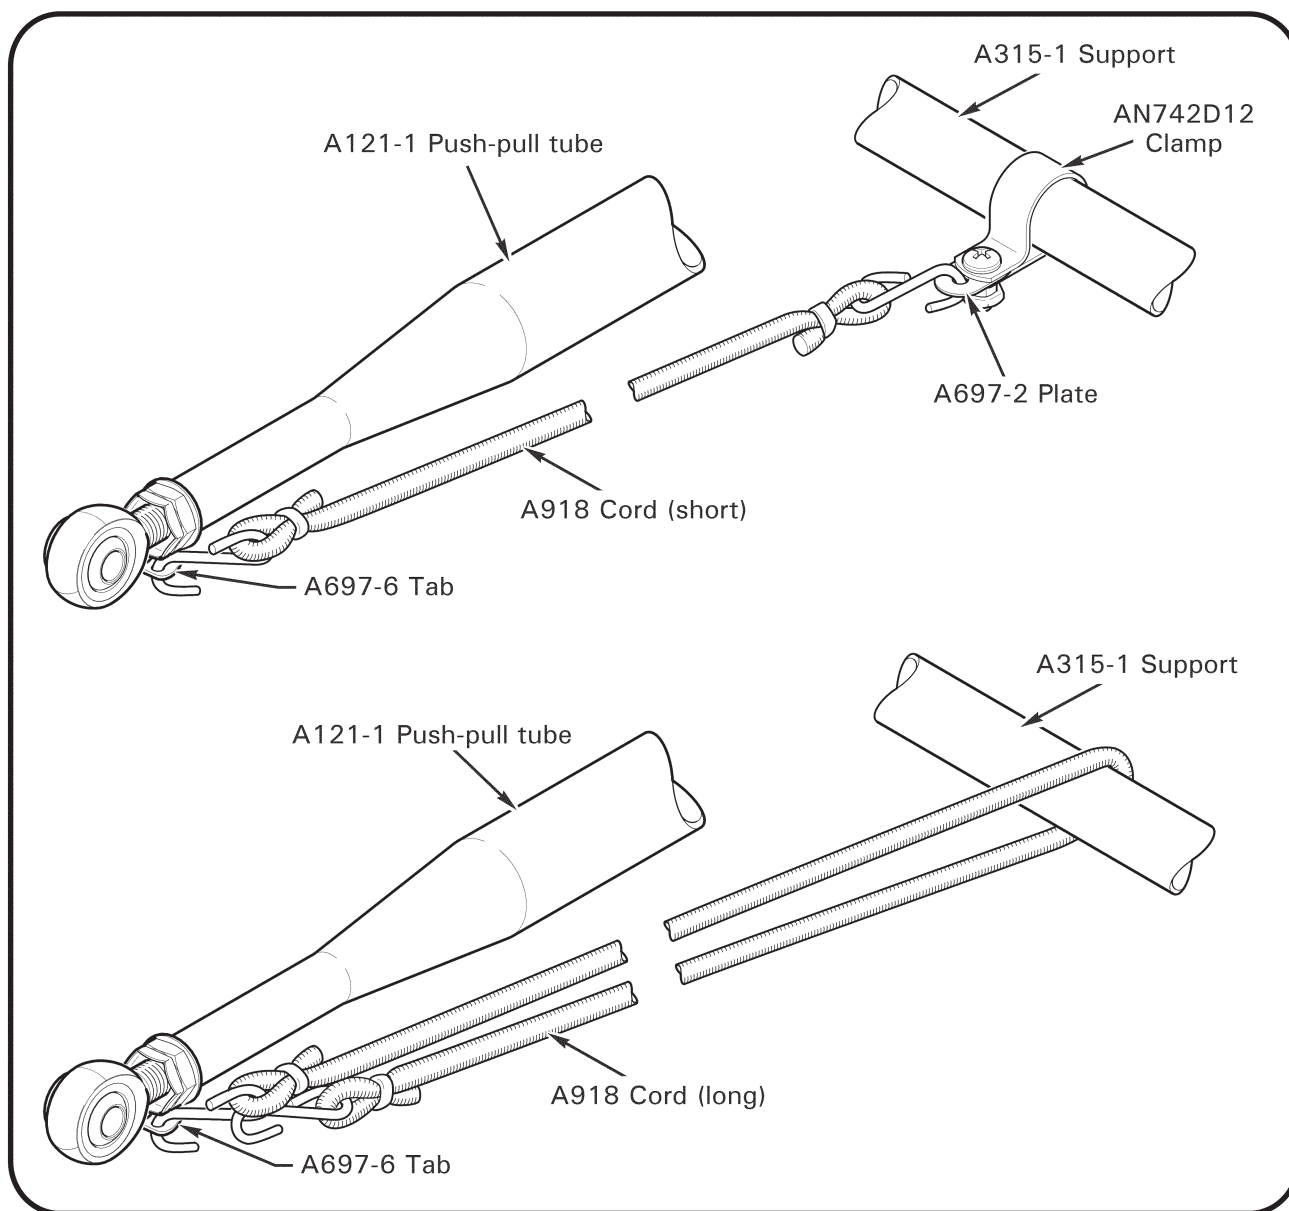

FIGURE 8-4A ELASTIC CORD (FORWARD-TRIM)
- a. Refer to Figure 8-4A. Unhook short elastic cord from forward end of A121-1 push-pull tube then unhook at A315-1 support and remove elastic cord, or
- a. Refer to Figure 8-4A. Attach short elastic cord to A697-2 plate then attach elastic cord to A697-6 tab at forward end of A121-1 push-pull tube, or
If friction assembly will not tighten and does not have larger (1.1 inch) belleville washers installed (4 ea.), replace with A478-1 spring washer and change length of spacers per Figure 8-4A. Replace circular knob with A499-2, as required.